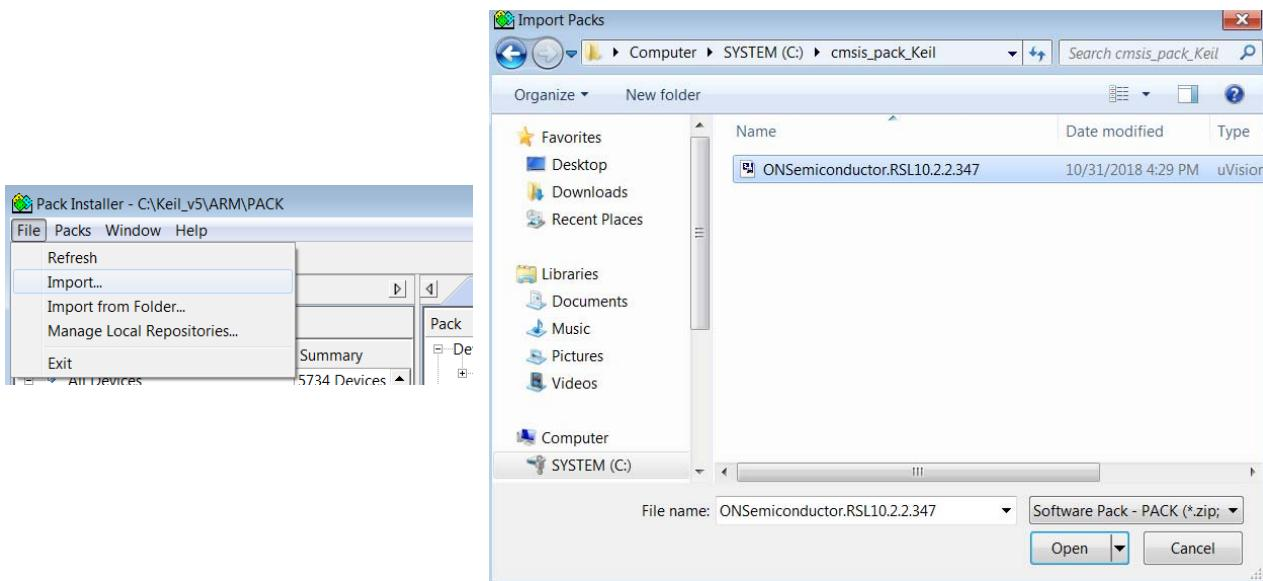

Figure 17. Installing the RSL10 CMSIS-Pack for the Keil µVision IDE
2. Click on **File > Import**, select your pack file *ONSemiconductor.RSL10.<version>.pack*, and click **Open** (see Figure 17). <version> is the RSL10 version, such as 2.2.347.